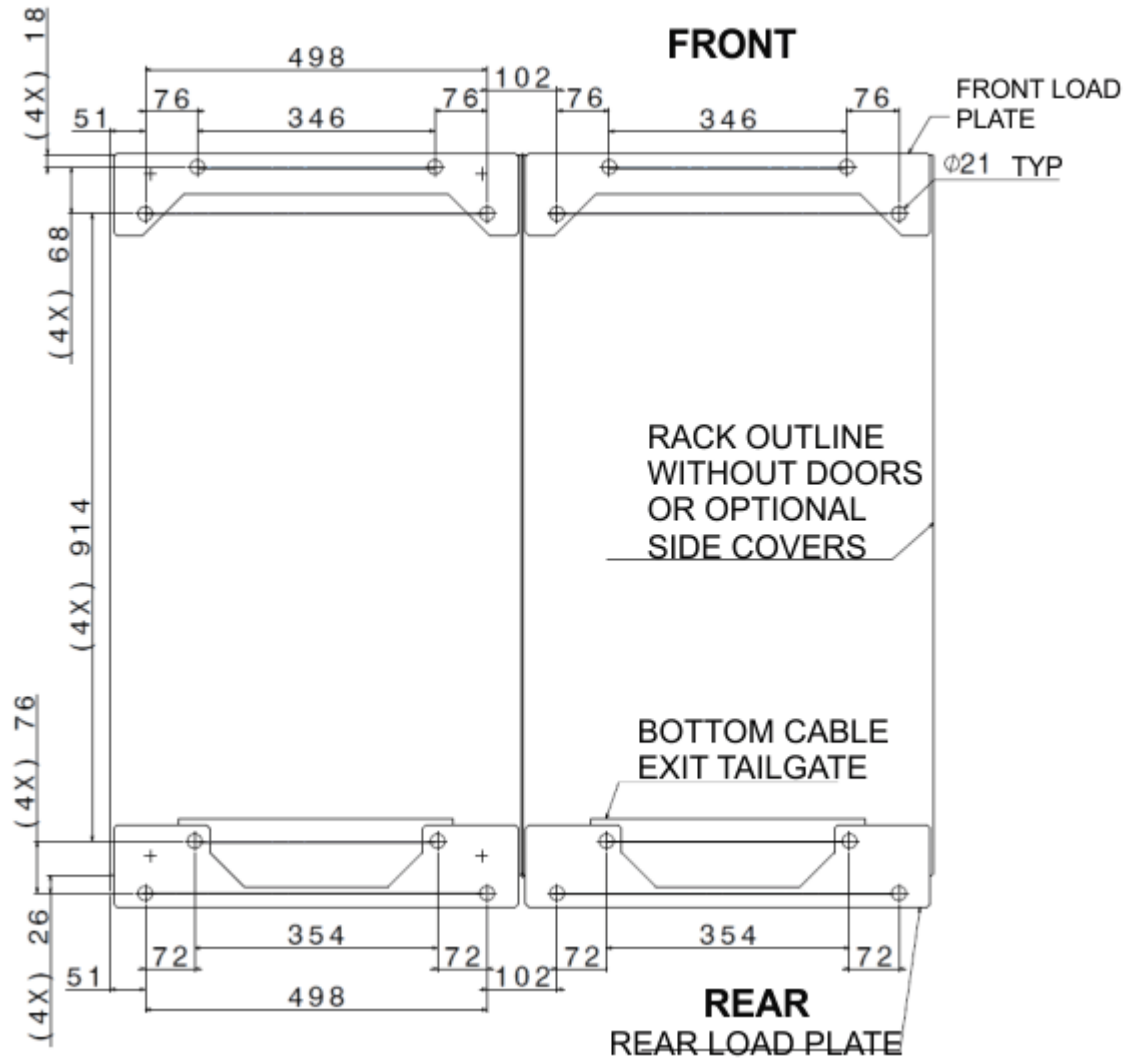

Figure 19. Location for fastener installation (nonraised floor)
- Use Figure 19 on page 102 to determine the placement of the loadplate fasteners (four per loadplate). The pattern repeats for each frame. Dimensions are in millimeters (mm).